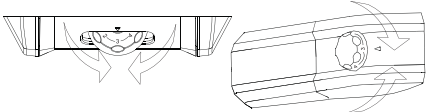

Fig.5
- The temperature adjustment of both compartments is effected by rotating the thermostat knob (fig. 5). Select the desired position: